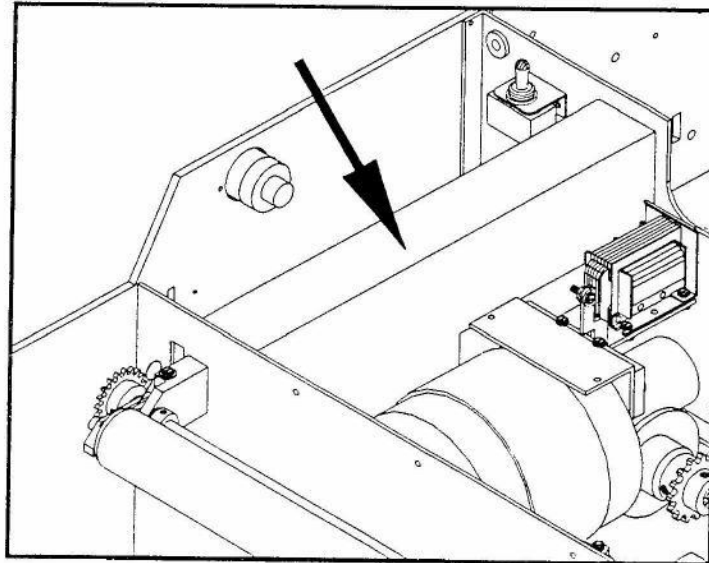

Figure 21
- E. Reverse these steps for reinstallation. See Figure 21.